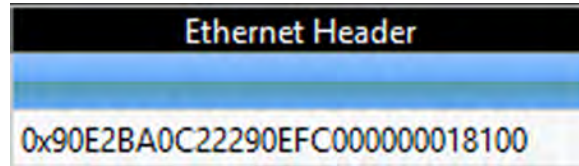

Figure 3.81: Example – Show Hexadecimal Prefix
- For Show Hexadecimal Format Prefix, “0x” is pre-pended to the data (Figure 3.81).
- If you uncheck the Show Format Prefix box, the Hexadecimal Format Prefix will be removed. See figures 3.81 and 3.82.